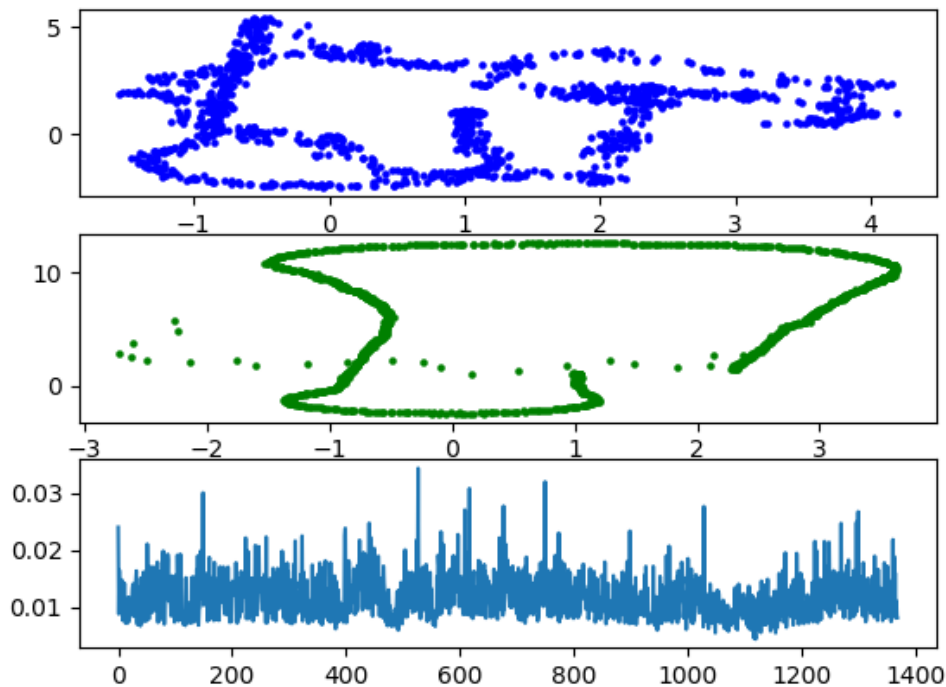

Figure 1: High measurement Noise
2. Particles spread widely, causing pose estimates to be more uncertain as shown in figure 1